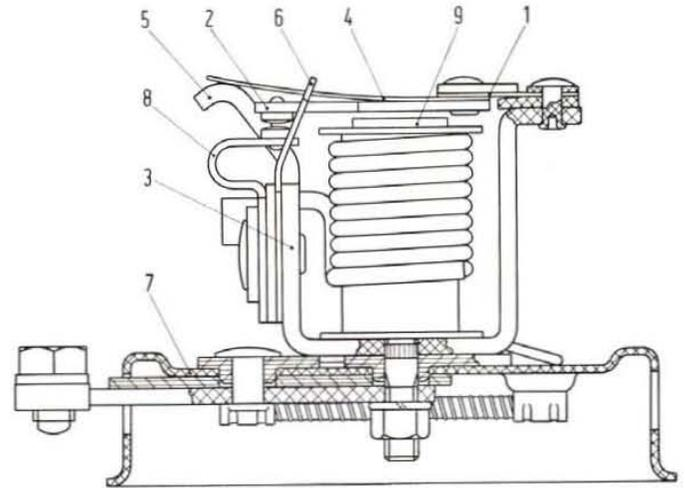

Fig. 335 - Cutout relay for regulator assembly GN 2/12/16.
If, after adjustment, armature-to-core air gaps are not within specified tolerance, it will be necessary to bend blade spring (8, fig. 335) carrying the stationary contact so as to bring air gap again within recommended limits. During this operation, it is essential to maintain the parallelism of both the movable and stationary contacts, that is to say, the
- armature-to-core air gap, with contacts closed, measured at core edge towards contacts (fig. 335) is .0138" (0.35 mm);